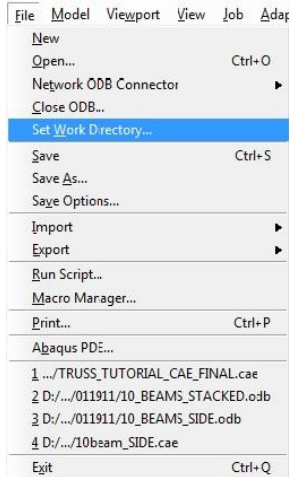

Figure 33. Set Work Directory
- To ensure that the input files write to the correct folder, setting the work directory must be accomplished. At the top of the screen, click **File** and in the dropdown menu click **Set Work Directory...** (Figure 33).